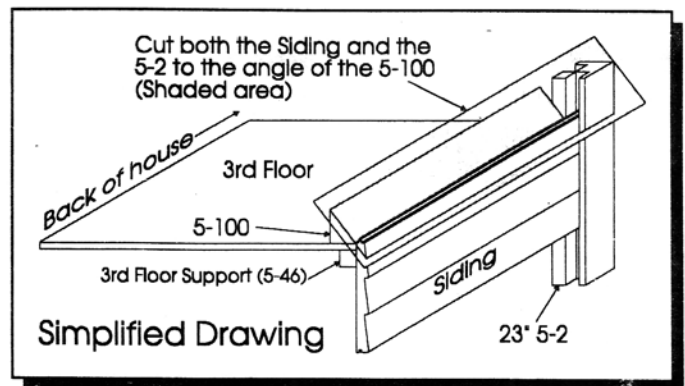

Figure 24
4. Trim the tops of the 23" 5-2 Cornerposts at the back edge of the house to the angle of the 5-100 molding. Also, trim the top edges of Siding Walls A and I to the same angle as the 5-100. See Figure 24.